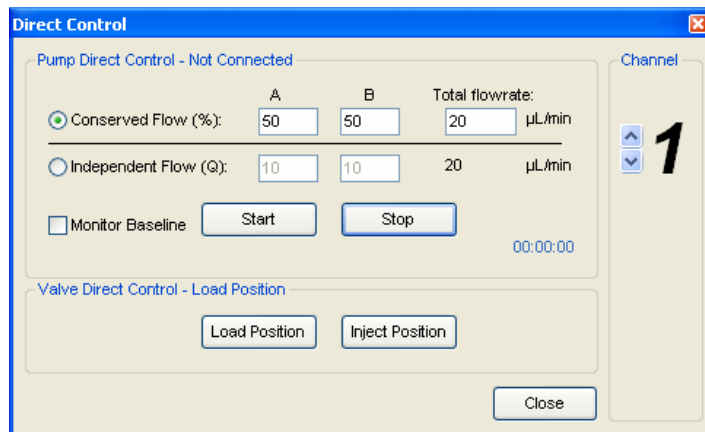

Figure 3-5. Direct Control Window – Flushing CH1 Autosampler Connection
- step 5* Open the **Direct Control Window** (Fig. 3-5) by clicking **System > Direct Control** from the Control software's **Acquisition Window**.